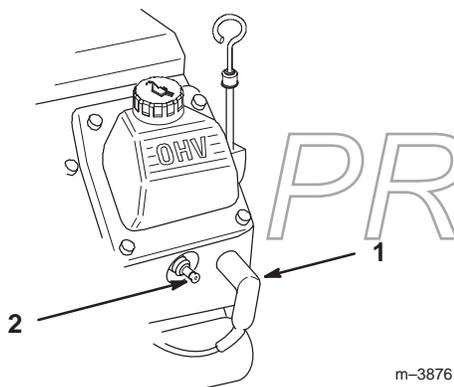

Figure 24
- Pull the wires off of the spark plugs (Fig. 24).
- Push the wires onto the spark plugs (Fig. 24).